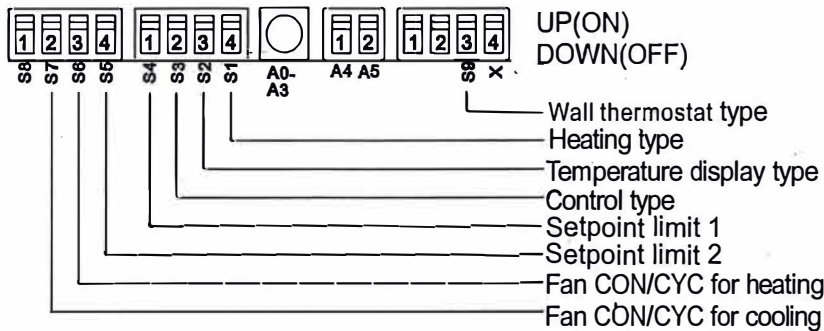

Fig.4
- See Table 1 and Fig.4 for Dip Switches configurations and functions of each dip switch position.
- Remove the front panel. (See Fig.4)